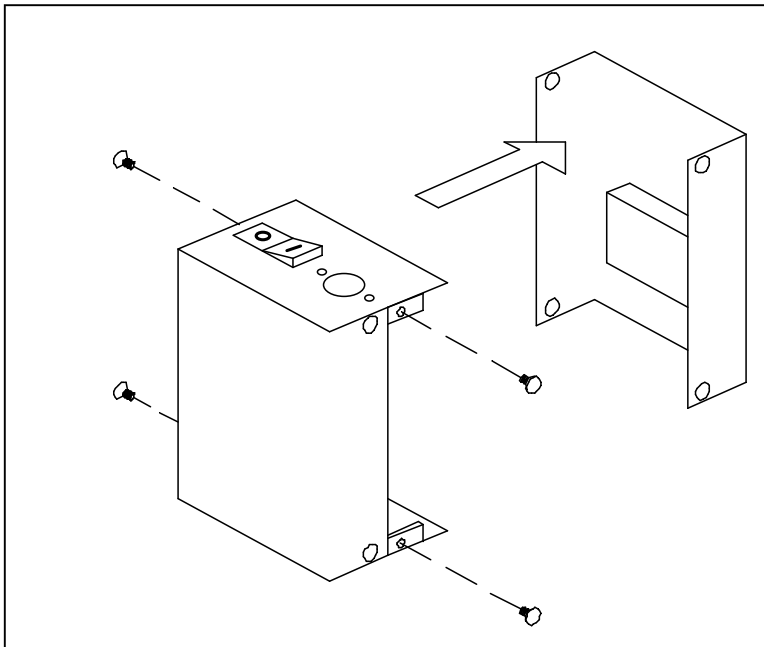

Figure 9. Back Cover Removal
1. Remove the four Phillips head screws from the back cover and gently remove it as shown in Figure 9.